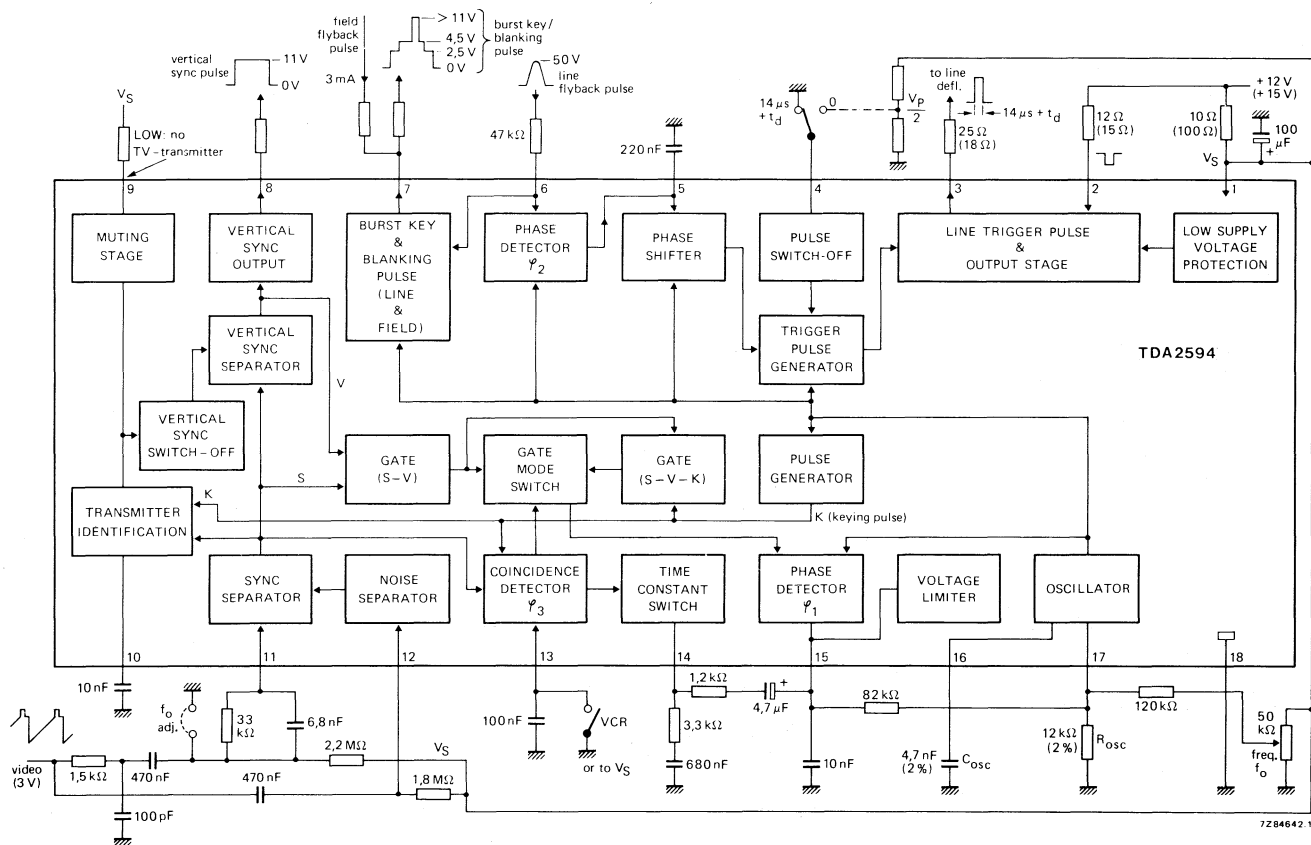

Fig. 1 Block diagram.
**CHARACTERISTICS** at  $V_{1-18} = 12$  V;  $T_{amb} = 25$  °C; measured in Fig. 1**Sync separator** (pin 11)